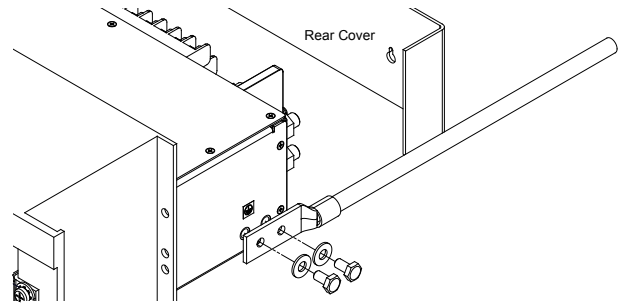

Figure 4 - Ground Lug Connection
- Figure 4 - Ground Lug Connection 5
8. Connect the lug using the ¼ - 20 bolts and flat washers provided, as shown in Figure 4.